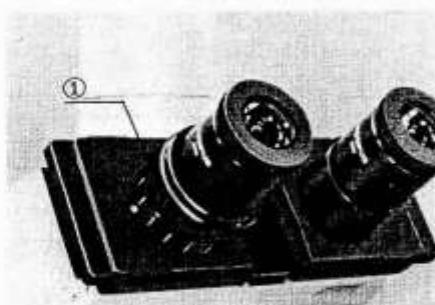

Fig. 13
- 2) Next, looking at the image through the left eyepiece with your left eye, rotate the diopter adjustment ring ① to focus on the specimen without using the coarse and fine adjustment knobs. (Fig. 13)